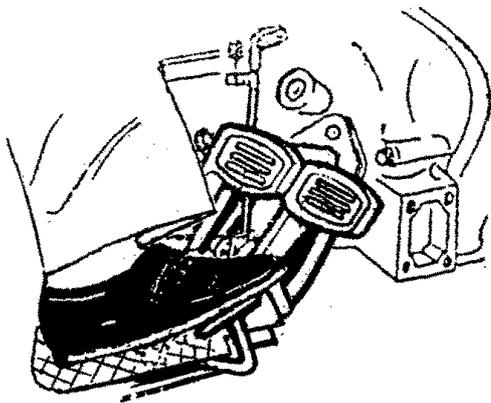

Fig.4-11 Foot Throttle Control
- c. Slowly release the clutch pedal and simultaneously increase fuel supply (foot throttle available Fig.4-11) to start off the tractor smoothly. After the tractor is started off immediately release the clutch pedal to avoid of wearing of the clutch.
- a. Reduce the foot throttle to slow down the speed of the tractor(Fig.4-11)